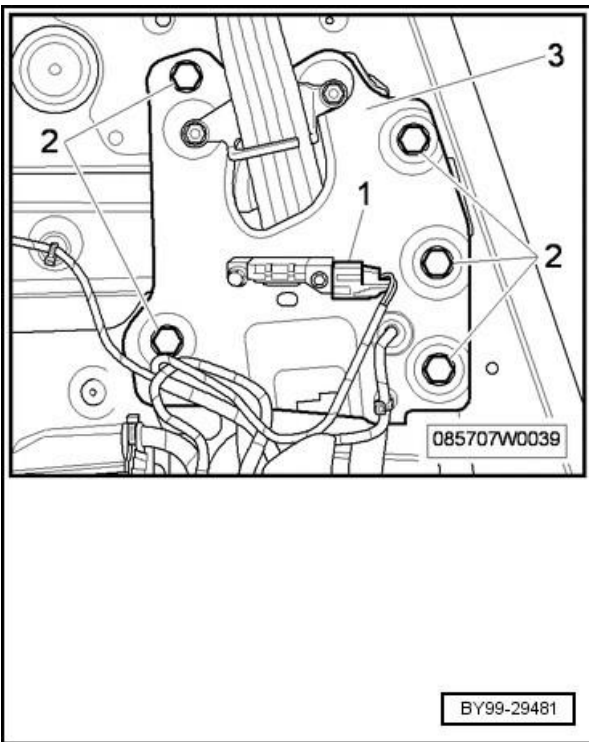

Figure 4
13. Disconnect the main harness from the crash sensor (1). Remove the five screws and washers (2) that secure the retractor mounting plate (3) (see Figure 4)